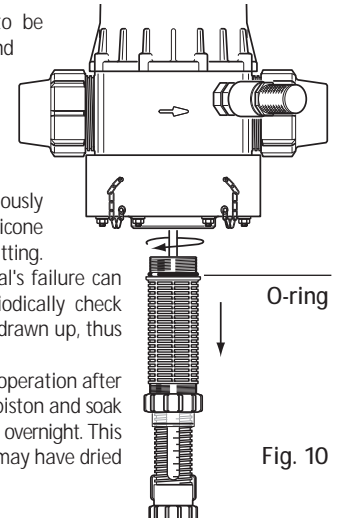

Fig. 10
- 1 - When using soluble products to be made up into solutions, we recommend the periodic dismantling of the entire dosing part (see: § CHANGING SEALS IN THE INJECTION ASSEMBLY). Thoroughly rinsing all the elements of the dosing part with water and re-assembling them after having previously lubricated the seal (Fig. 10) with a silicone lubricant, in the case of difficulty in re-fitting.